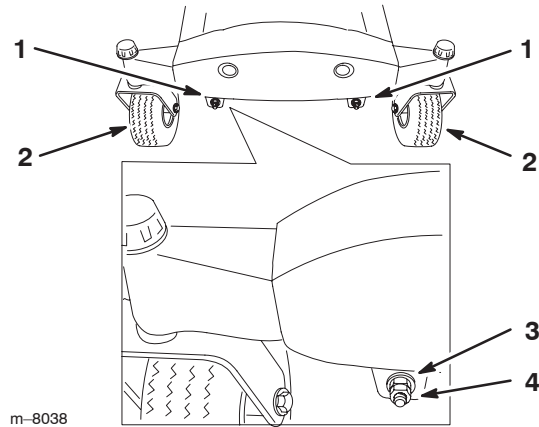
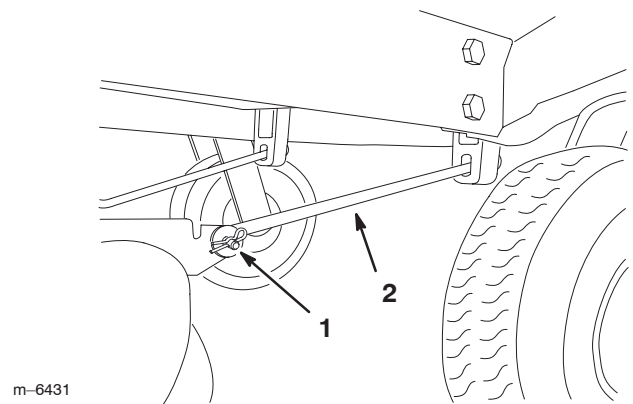

Figure 41
Figure 43
10. To adjust the front-to-rear blade slope, remove the locknuts and then rotate the adjustment nuts in the front of the mower (Fig. 41).
12. After adjusting both adjustment nuts evenly, check the front-to-rear slope again. Continue adjusting the nuts until the front blade tip is 1/16–5/16 inch (1.6–7.9 mm) lower than the rear blade tip (Fig. 41).
Note: After adjusting the adjustment nuts, make sure there is **no slack** in either support rod (Fig. 43). Tighten either one to remove the slack (Fig. 41).
4. Remove the hairpin cotter and clevis pin from the front support rod on each side of the mower.(Fig. 43).
7. Attach the front support rods to the machine with the clevis pins and hairpin cotters (Fig. 43).